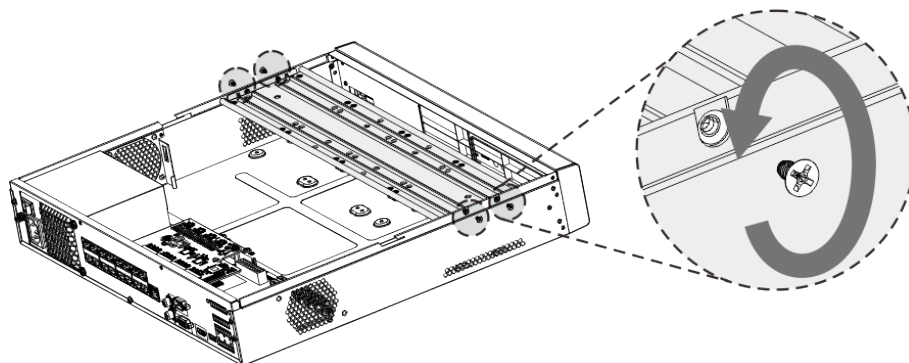

Figure 3-9
- 1.5U device has one HDD bracket. For the way to remove the bracket, see Figure 3-9